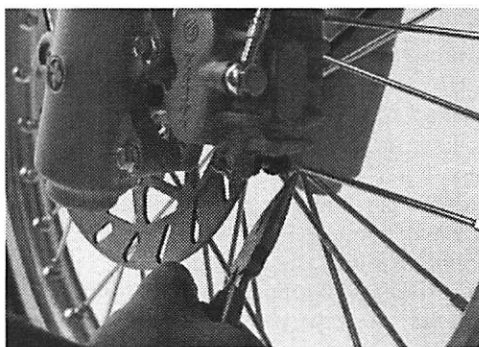

Figure 6.2
2. Remove the two spring clips from the brake pad pin located in the lower rear of the caliper. (Figure 6.2)